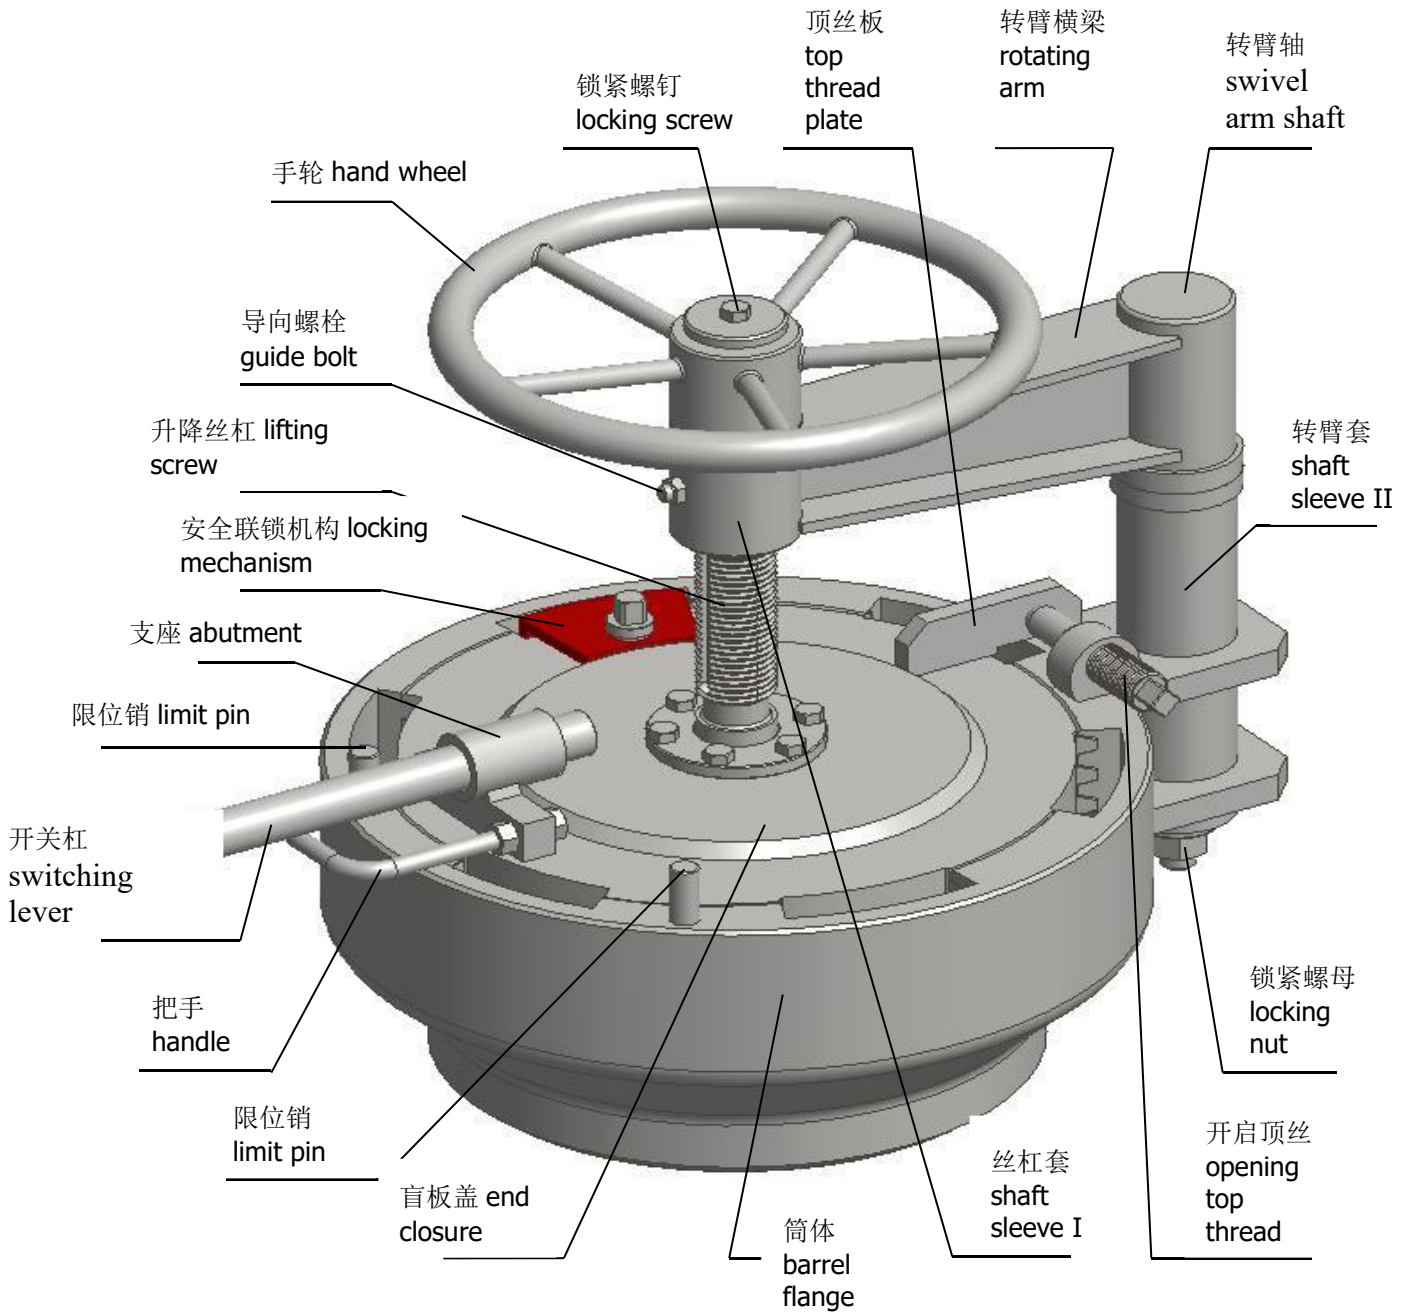

图 1 (picture 1)
2)按图 1 所示，a.卸下手轮中心锁紧螺钉 b. 卸下手轮 c. 卸下转臂轴下端锁紧螺母 d.拧松导向螺栓；
2) Remove the hand wheel center locking screw as shown in Figure 1. a. Remove the hand wheel center locking screw b. Remove the handwheel c. Remove the locking nut at the lower end of the swivel arm shaft d. Loosen the guide bolt;